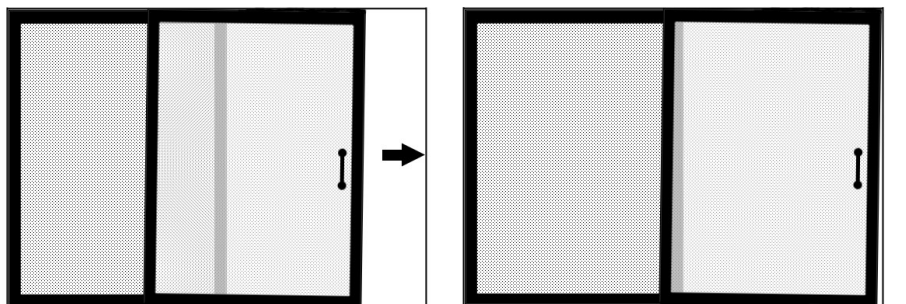

Figure 3: Close door completely, then check if edge of door isn't parallel with edge of jamb
- Slides smoothly and is level. The easiest way to check if the door is level is to close the door almost all the way and run your finger along the gap between the door and the close jamb. See Figure 3.